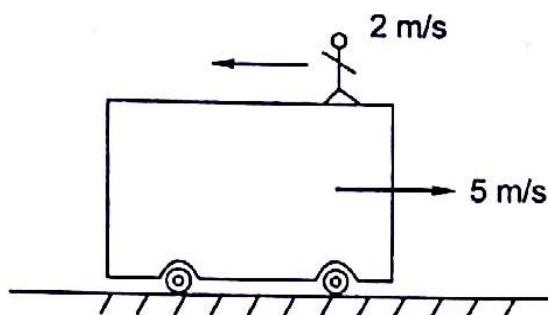

Fig. 20.10
20.1 A trolley of 600 kg can move along a horizontal frictionless track, as shown in Fig. 20.10. Initially the trolley with a man on it of mass 70 kg is moving towards right at a speed of 5 m/s. If the man starts walking on the trolley with a speed of 2 m/s towards left, what is velocity of travel?